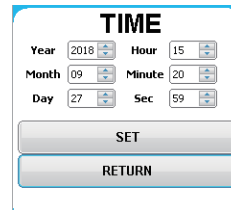

Figure 4-3 Time Setting
- In the [Setup] menu, select the [Time], showed as Figure 4-3 Time Setting below Time Setting, You can set the year, month, day, hour, minute, and second.